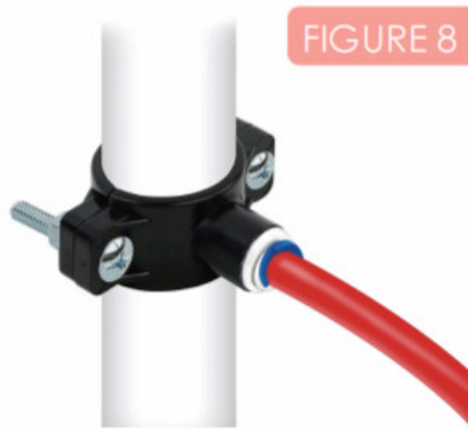

FIGURE 8
5. Insert the lock clip into the fitting to secure the connection (Figure 8).